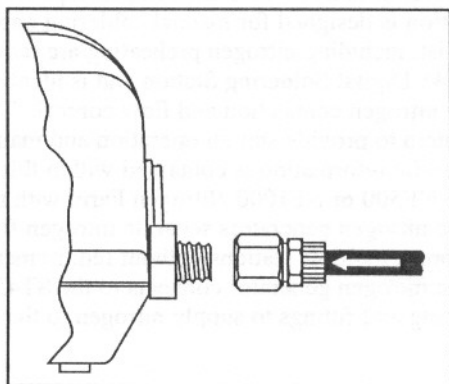

Figure 1
- b) Install the connector (with small, flexible air hose) onto the air hose fitting (or metric adapter) finger tight. Using an appropriate wrench, tighten the connector an additional $\frac{1}{4}$ turn. **DO NOT** overtighten. (Refer to Figure 1.)